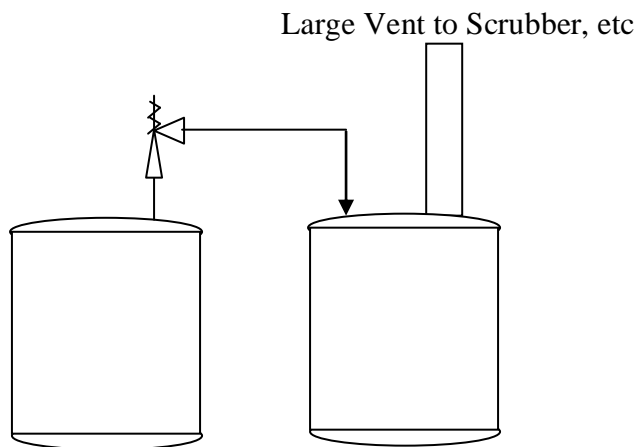

Figure 2
2. Toxic, flammable, expensive and environmentally destructive materials need a method to stop flow once the overpressure situation has been corrected. In this case a self closing device is essential, capture of vented materials until the relief valve closes is prudent. Examples would be most organics, metallic salt solutions, and most oils. See Figure 2.